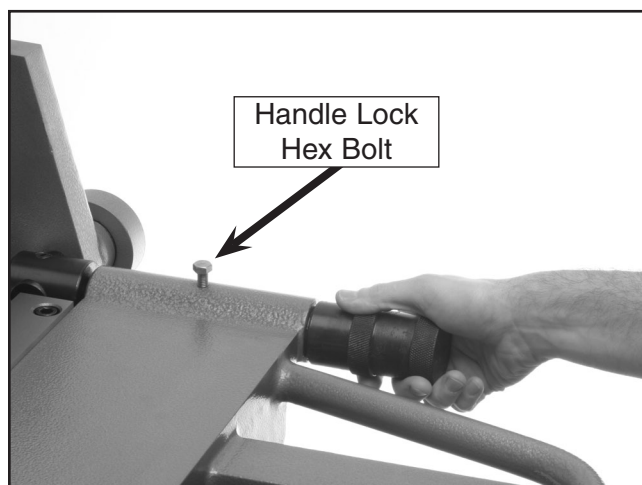

Figure 13. Rotating setback knobs.
1. Evenly rotate both setback knobs clockwise, as shown in **Figure 13**, to move the front edge of the bending leaf toward the clamping block and the fingers.
4. Lock the handle in place with hex bolts (**Figure 13**) on the bending leaf.